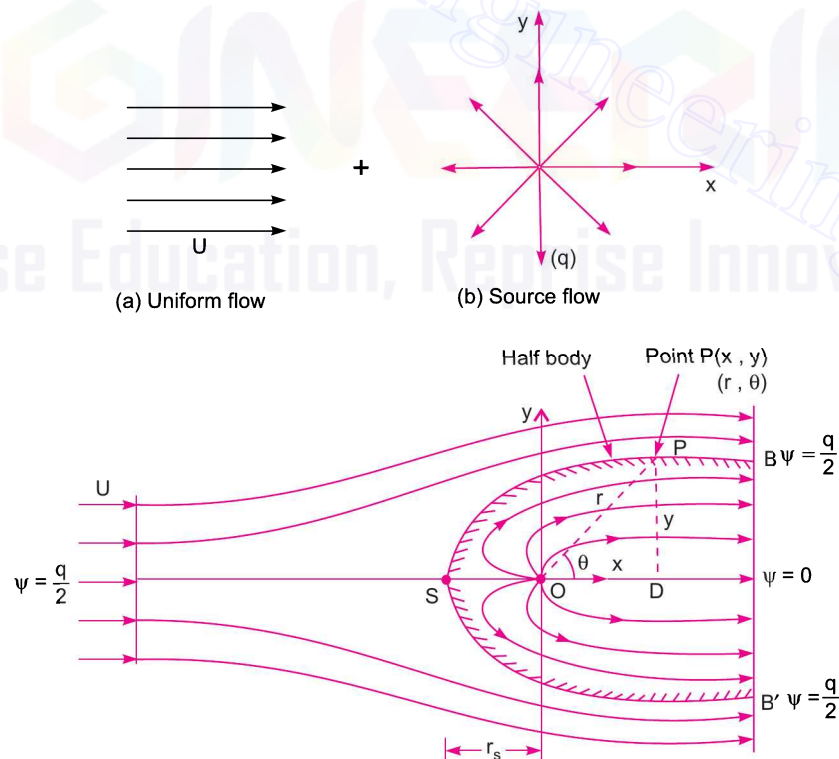

Fig. 5.46 Flow pattern resulting from the combination of a uniform flow and a source.
**5.17.3 A Plane Source in a Uniform Flow (Flow Past a Half-Body).** Fig. 5.46 (a) shows a uniform flow of velocity  $U$  and Fig. 5.46 (b) shows a source flow of strength  $q$ . When this uniform flow is flowing over the source flow, a resultant flow will be obtained as shown in Fig. 5.46. This resultant flow is also known as the flow past a half-body. Let the source is placed on the origin  $O$ . Consider a point  $P(x, y)$  lying in the resultant flow field with polar co-ordinates  $r$  and  $\theta$  as shown in Fig. 5.46.